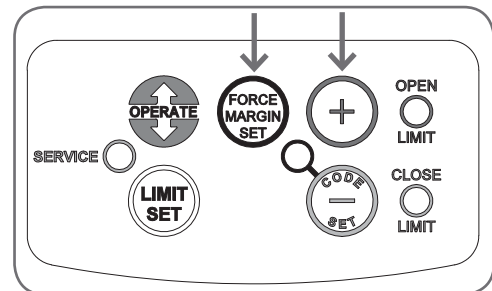

Fig.6.5.3
- Press and hold the FORCE MARGIN SET button (**Fig 6.5.3**).